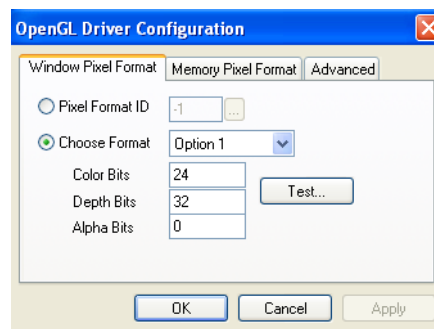

Figure 5-77: OpenGL Driver Configuration dialog box
4. In the OpenGL Driver Configuration dialog box (figure 5-77), select **Pixel Format ID** and enter this number.